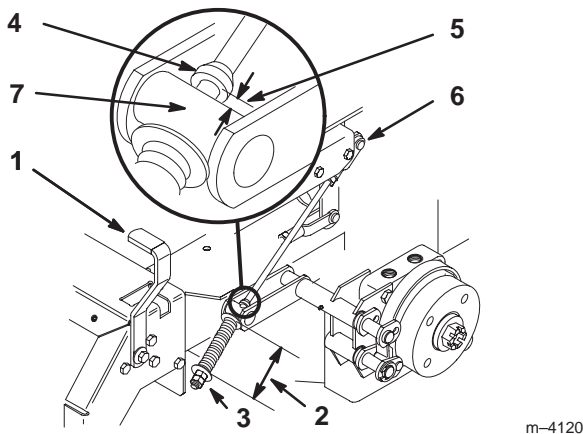

Figure 49
2. Measure the length of the spring. Measurement should be 2.75" (70 mm) between washers (Fig. 49).
3. If adjustment is necessary, loosen the jam nut below the spring and tighten the nut directly below the yoke (Fig. 49). Turn the nut until the correct measurement is obtained. Tighten the two nuts together and repeat on opposite side of unit.
6. Measure the distance between the trunnion roller and the collar on brake rod . Measurement should be 3/16"-1/4" (5-7 mm) (Fig. 49).
7. If adjustment is necessary, loosen the jam nut directly below the yoke. Turn the bottom adjusting nuts until the correct measurement is obtained (Fig. 49). Tighten jam nut at yoke.